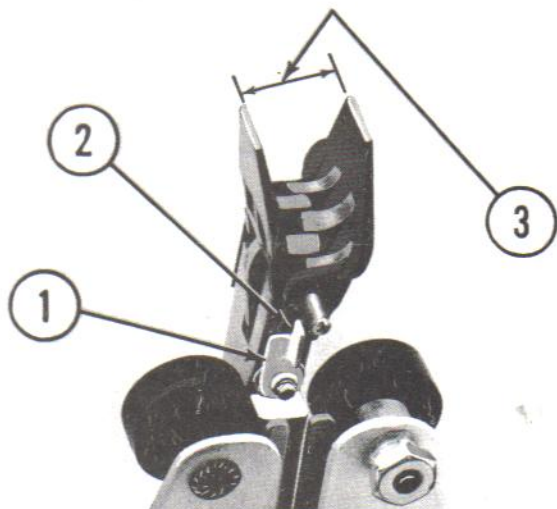

Fig. 40. BRACKET AND ROLLER ASSEMBLY, LIFT ARM GUIDE, 2500
(2) The eccentric stud (Item 1) should be adjusted to provide .003" to .006" clearance between the nylon rollers and the guide tips.
(3) Advance the changer in its cycle to a point where the record lift arm spring loaded guide tips clear the upper edges of the record separators and stop the mechanism by turning off the service switch. The spacing between the guide tips should be 7/16" as shown in Figure 40, Item 3. Should it be
necessary to increase this dimension the tabs (Item 2) on the nylon guide tips may be scraped or filed. Advance the mechanism to play position and turn the service switch off. Lower and raise the lift arm manually. Check to see that the guide tips leave the guide rollers with no bind and stand straight entering the record compartment. Should they run off they may be straightened by adjusting the stop (Fig. 40, Item 1).